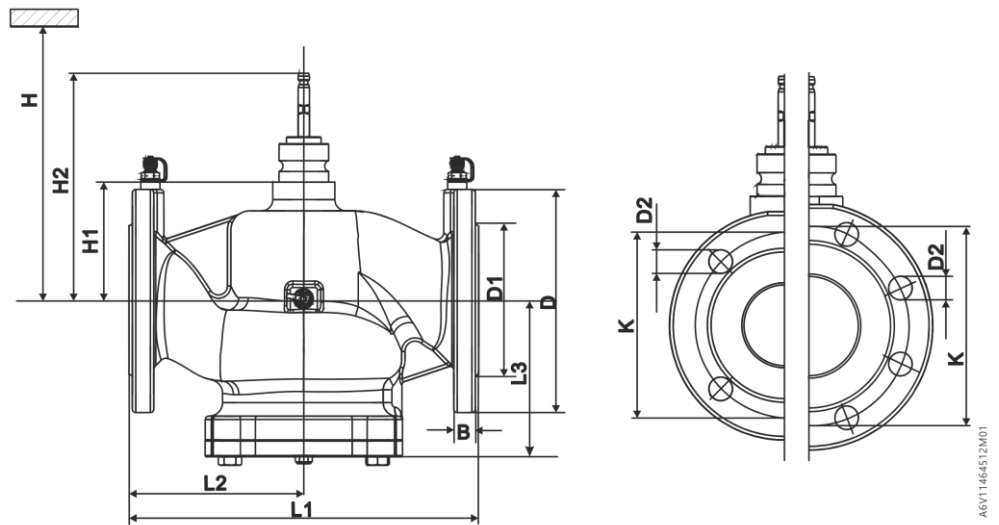

Figure 9. 599-0733X Series Valves.
- Allow sufficient space for servicing the valve and actuator. See Figure 9. 599-0733X Series Valves.